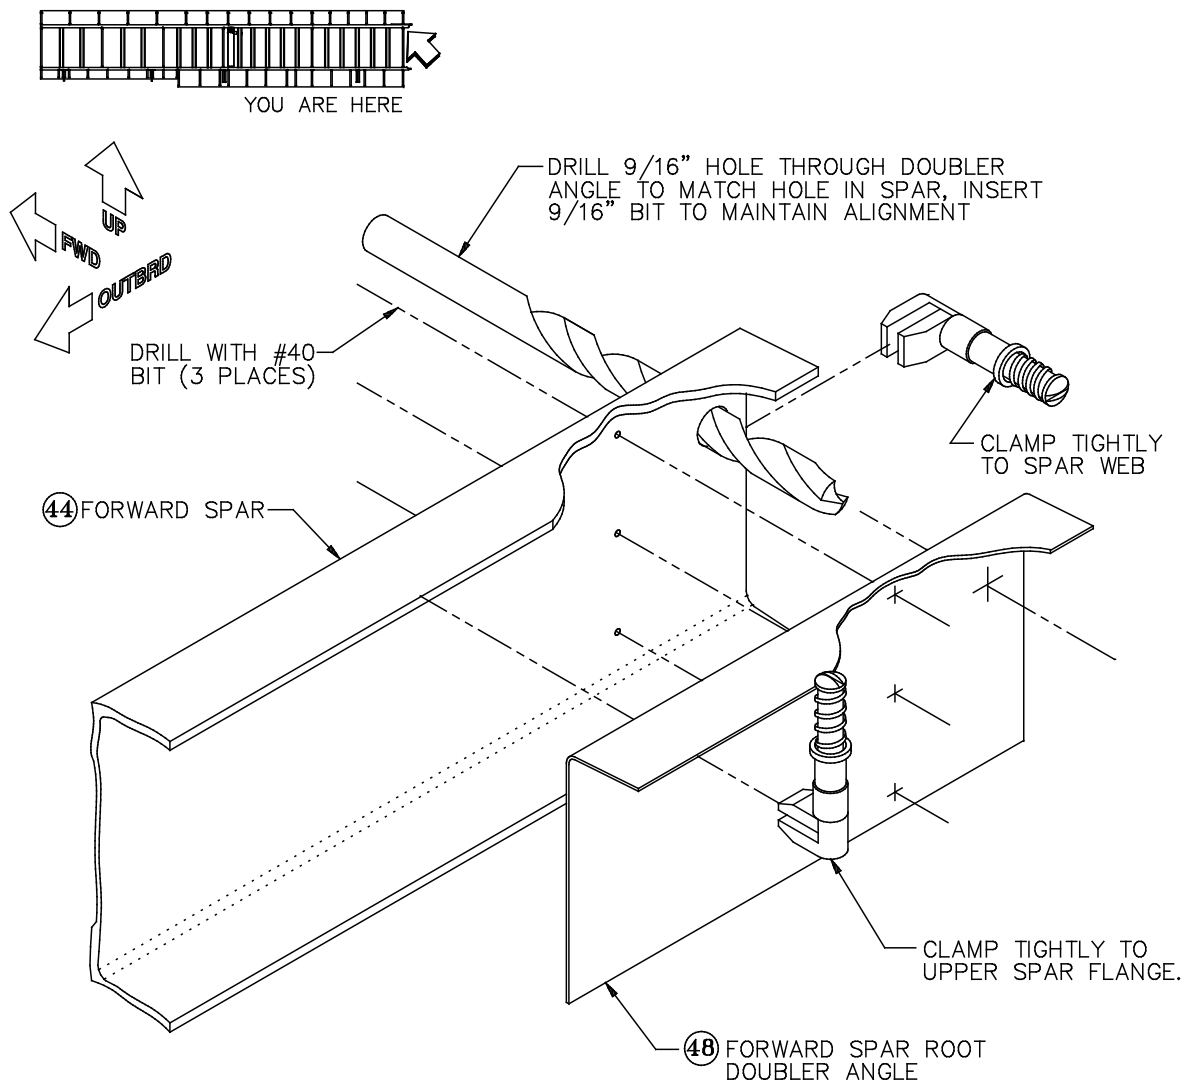

Figure 8: Forward Spar Root Doubler Angle
- A) Position the **forward spar root doubler angle** [48] against the aft side of the forward spar, as shown in Figure 8. Use C-clamps or Cleco side-grip clamps to clamp the doubler angle tightly to the underside of the spar's upper flange and to the aft face of the spar web.